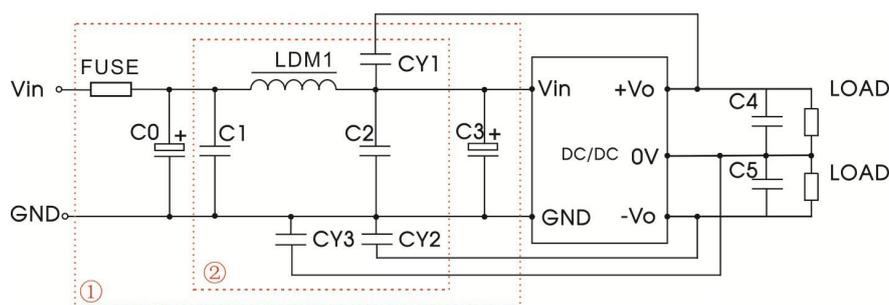

Fig.4
RE	CISPR32/EN55032 CLASS B (see Fig. 4-② for recommended circuit)
Notes: For EMC tests we use Part ① in Fig. 4 for immunity and part ② for emissions test. Selecting based on needs.